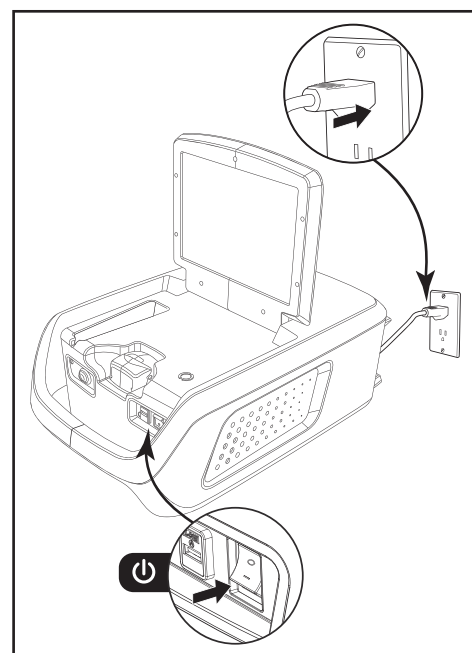

Figure 3. Power up the Rezūm Generator.
4. Plug the power cord from the Generator into an electrical outlet (Figure 3).